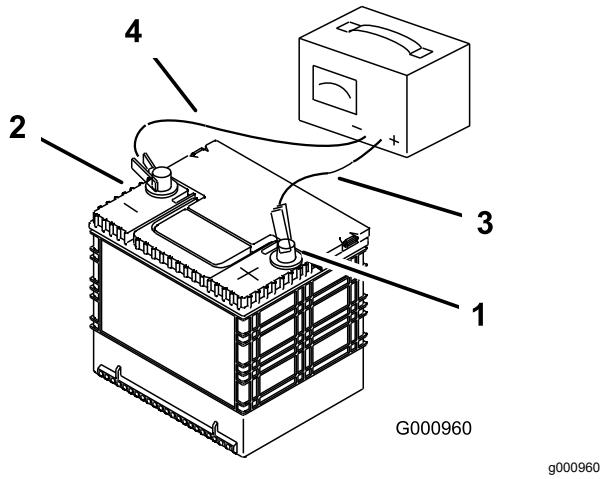

Figure 54
- When the battery is fully charged, unplug the charger from the electrical outlet, then disconnect the charger leads from the battery posts (Figure 54).